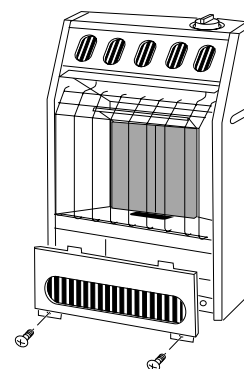

Figure 6 - Removing Front Panel of Heater
2. Pull bottom of lower front panel forward, then down (see Figure 6).